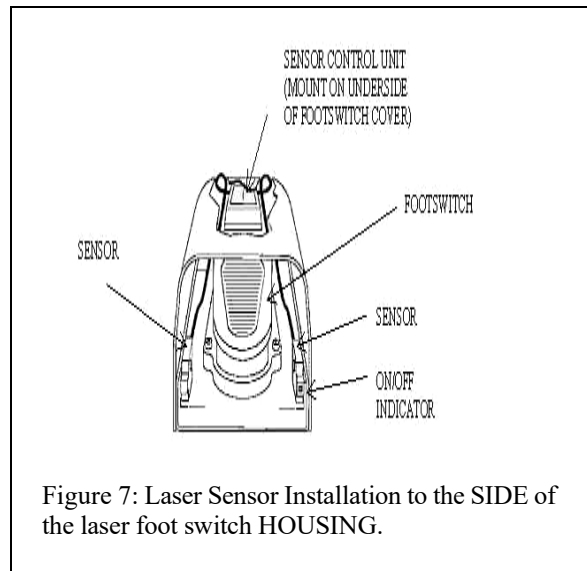

Figure 7: Laser Sensor Installation to the SIDE of the laser foot switch HOUSING.
3. Place the foot switch for the laser on an easily accessible work surface (Figures 7 & 8).